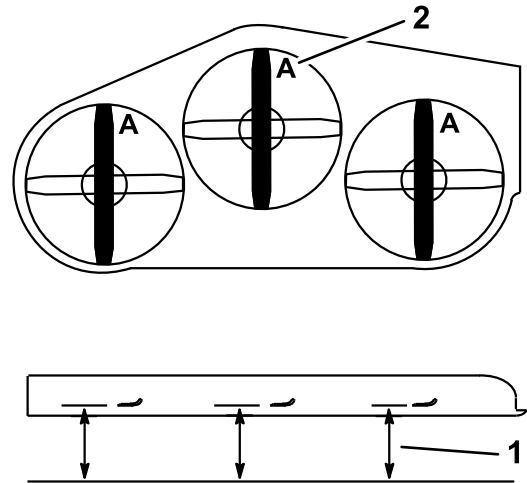

Figure 77
3. Rotate the blades until the ends face forward and backward (Figure 77). Measure from a level surface to the cutting edge, position **A**, of the blades (Figure 77). Note this dimension.